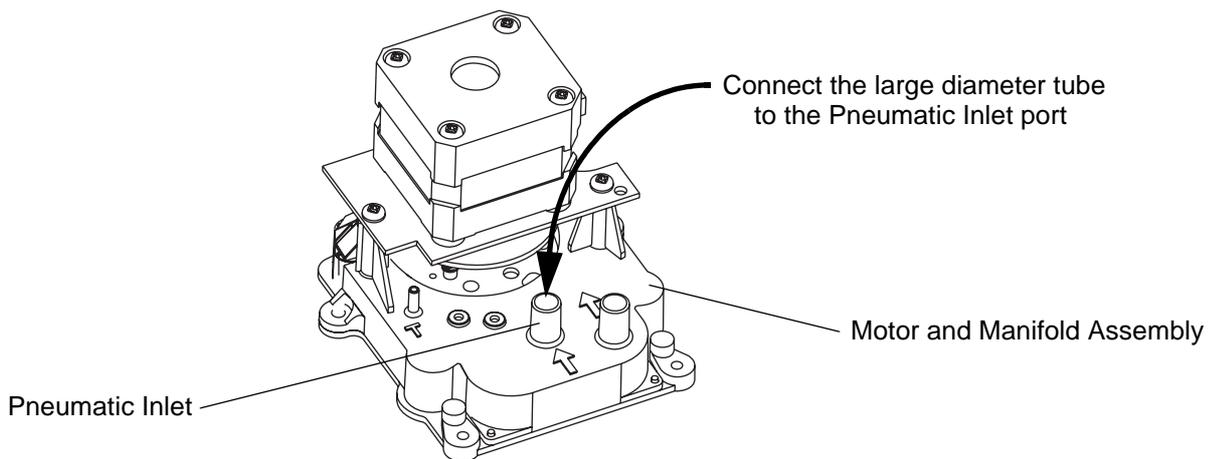

Figure 41 - Pneumatic Inlet on the Motor and Manifold Assembly
- Note:** Make sure the tube is connected to the correct inlet tube on the motor and manifold assembly (Refer to Figure 41).